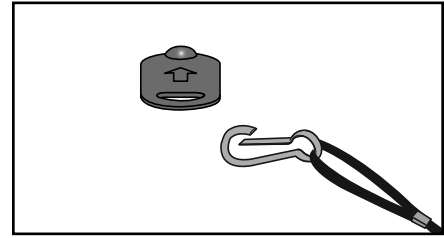

Figure 2
**The function of the immobilization method:** The purpose of immobilizing the treadmill is to prevent unauthorized use. This can be accomplished by removing the e-stop key from the treadmill, un-clipping it from the cord and putting it in a non-accessible place. See Figure 2. **NOTE:** Immobilization can also be enabled using the LOCK code. Either temporarily by pressing LOCK during review and entering the correct PIN number, or permanently by enabling the LOCK feature in SETUP mode. See Setup in Chapter 2.